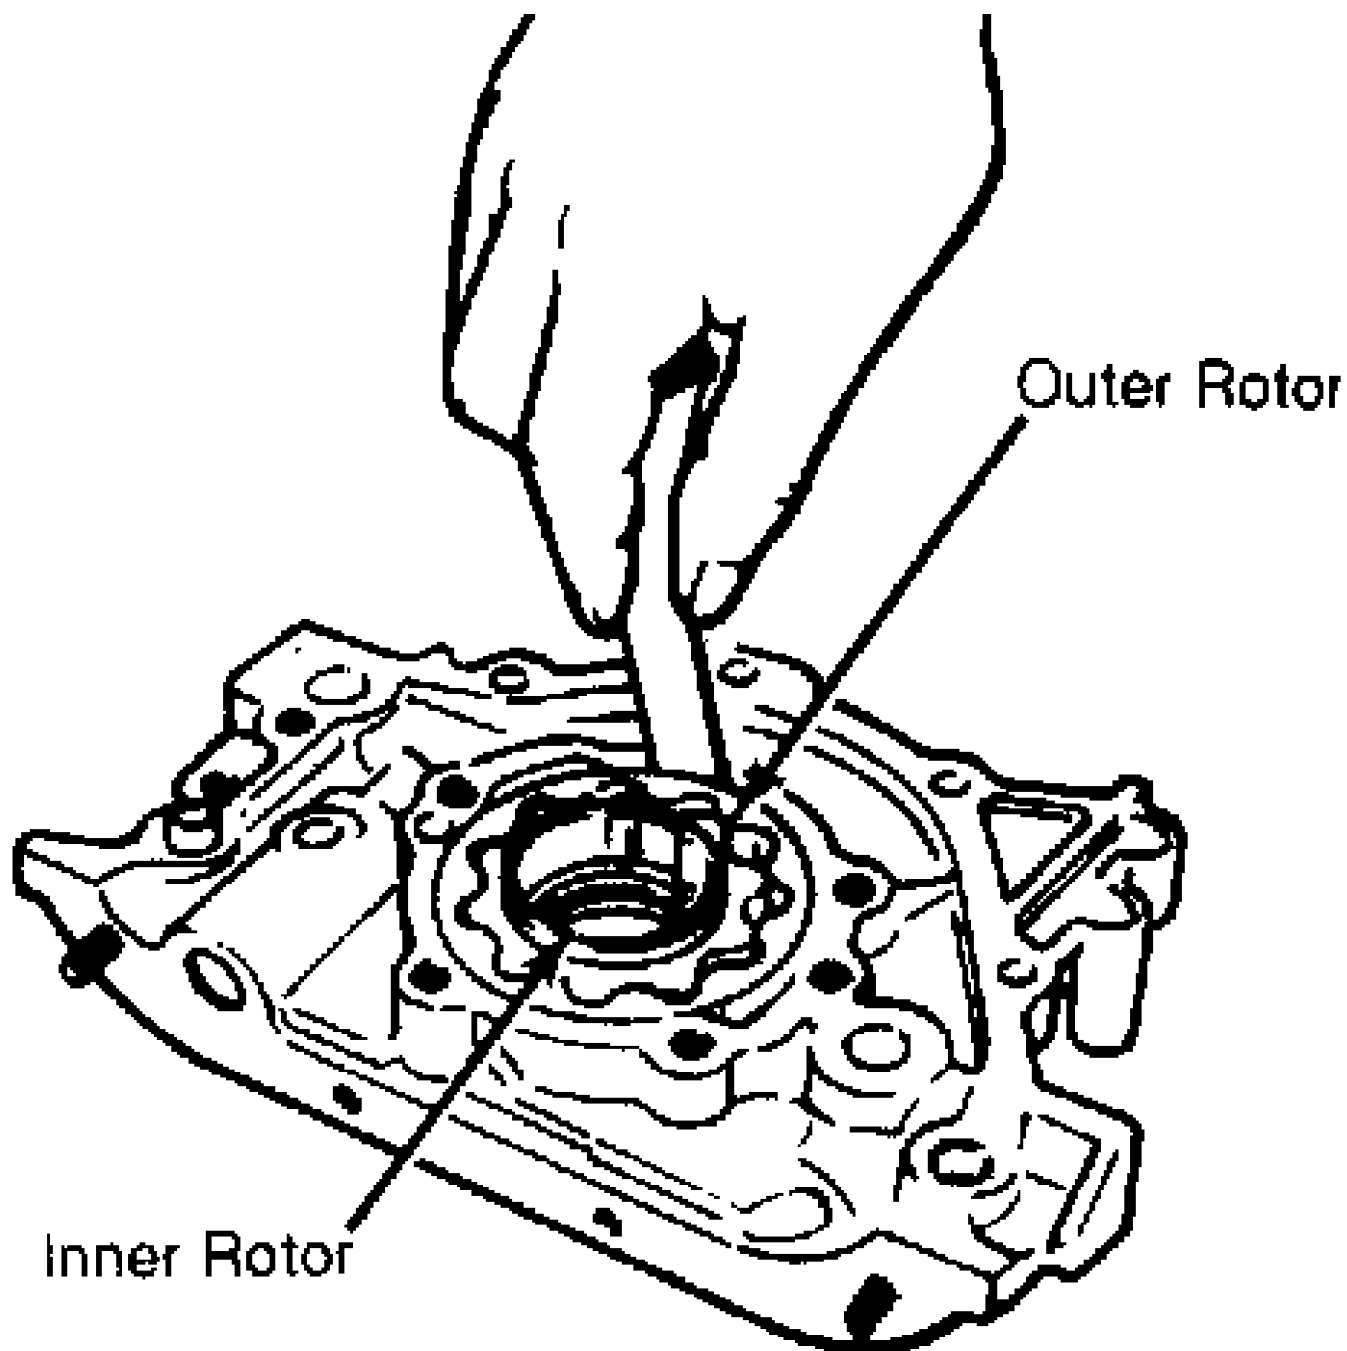

Fig. 22: Checking Oil Pump Radial Clearance
2) Inspect oil pump gears for wear or damage. Using a feeler gauge, measure radial and side clearance. See Figs. 22 and 23. If clearance exceeds specification, replace outer rotor or case. See OIL PUMP SPECIFICATIONS table.